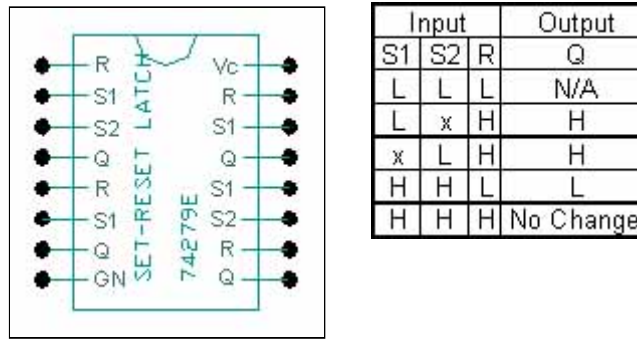

Figure 3. Latch Truth Table and Pin Configuration
- Since the voice controller only remains high (5 volts) for one second, we need to create a latch circuit to keep it high for our needs. We will do this with the aid of a Set-Reset Latch. See Figure 3 for the truth table and latch pin configuration.